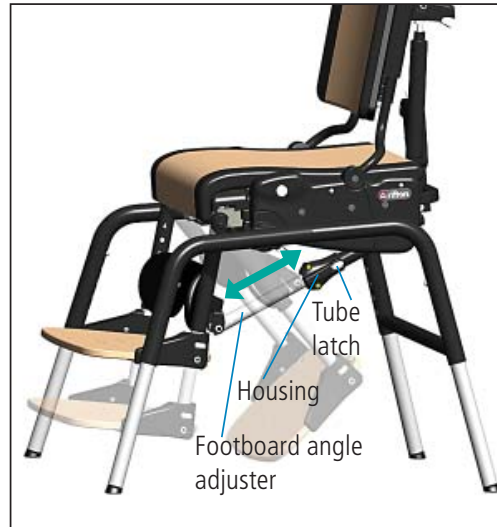

Figure 16a
To detach seat and backrest unit from base, first disconnect footboard angle adjuster, if footboard is present (see Figure 16a). Also lock casters, if casters are present, and remove arm supports from chair.
**Note:** To disconnect footboard angle adjuster, reach beneath seat, depress white tube latch and pull footboard up and away from seat until tubing drops out of housing (see Figure 16a).